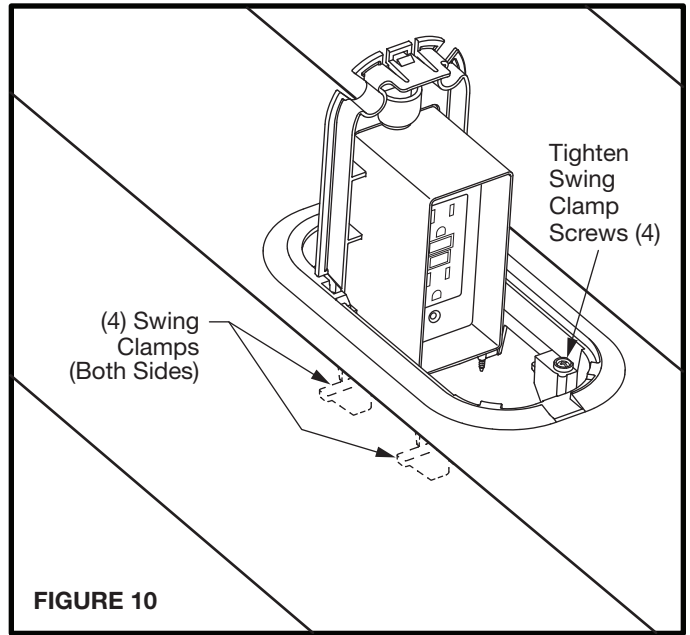

FIGURE 10
- 2.4a The attached four Swing Clamps will flip out to grip the underside of the deck board by tightening the four Swing Clamps Screws (see Figure 10).
- 2.4b Tighten the Swing Clamp Screws (4) until the clamp contacts the underside of the deck board. Finish tightening the Swing Clamp Screws with an additional 1/2" turn to secure Deck Grommet™ Pro (A) to the deck board (see Figure 10). **DO NOT OVER TIGHTEN!**